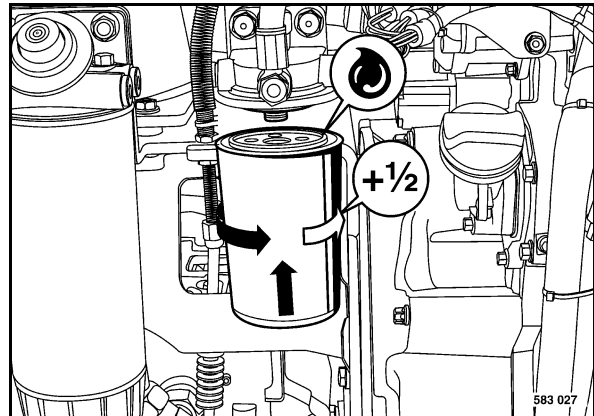

Fig. 159
- Slightly oil the rubber seal (Fig. 159) on the new filter cartridge.